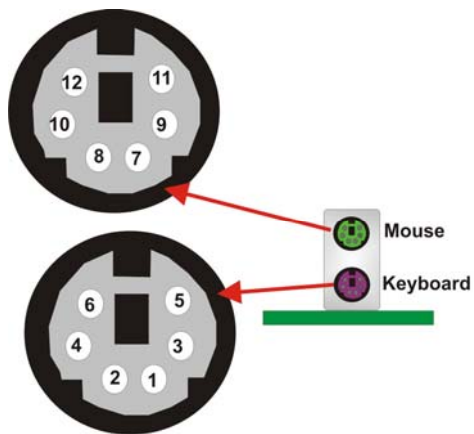

Figure 4-18: PS/2 Pinouts
- CN Pinouts:** See **Figure 4-18** and **Table 4-13**